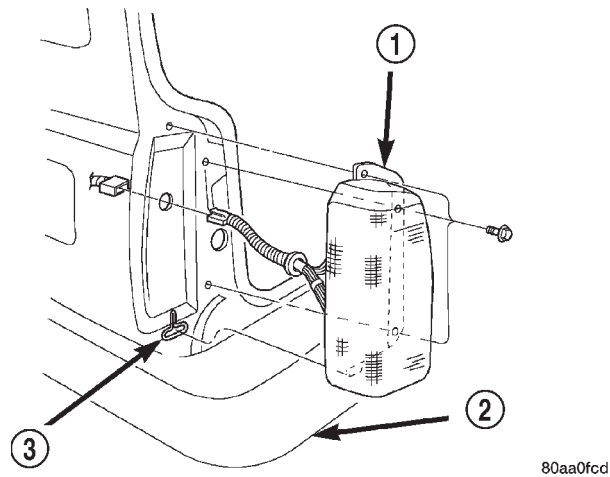

Fig. 33 Tail Lamp
- (1) Open the liftgate.
- (2) Remove the screws that secure the tail lamp unit to the quarter panel (Fig. 33).
- (3) Grasp the tail lamp unit and pull it rearward to disengage it from the grommet at the base of the lamp.
- (4) Rotate the bulb sockets counterclockwise and remove the sockets from the tail lamp housing.